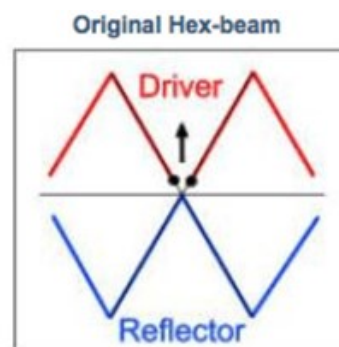
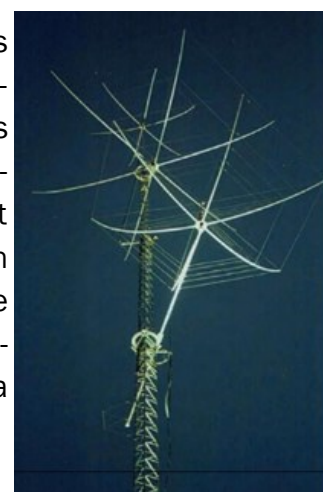

Figure 3. Traffie HEX-BEAM. ¹
Figure 5. N1HXA Hex-Beams at 42', 70' and 90'. CQ Magazine (Oct. 2020)
The first experiment I plan to perform is to compare the two hexbeam designs to "definitely" answer the question "Is the Mike Traffie (N1HXA) "M-W" design superior or inferior to the Steve Hunt (G3TXQ (SK)) "M-U" design?" The HEX-BEAM® is a compact two-element beam that is available in mono-band and multiband versions. The turn radius for a 20m band is about 10 feet. Traffie developed his M-W version, shown in Figure 3, in the early 1990s and a stack of three five-band HEX-BEAMs at Traffie's QTH is shown in Figure 5. In 2007, Steve Hunt, G3TXQ (SK), developed the design for a